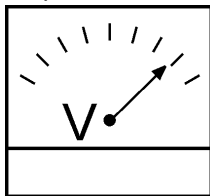

Figure 45. Voltmeter Meter
- The generator's AC-voltmeter (Figure 45) will display the generator's output in **VOLTS**..